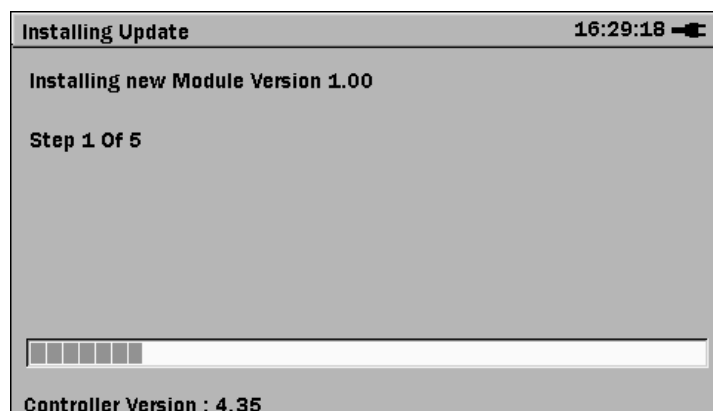

Figure 6.1-3 First Installing Update screen
6. Press the **Set** key to continue. The first **Installing Update** screen is displayed (Figure 6.1-3).